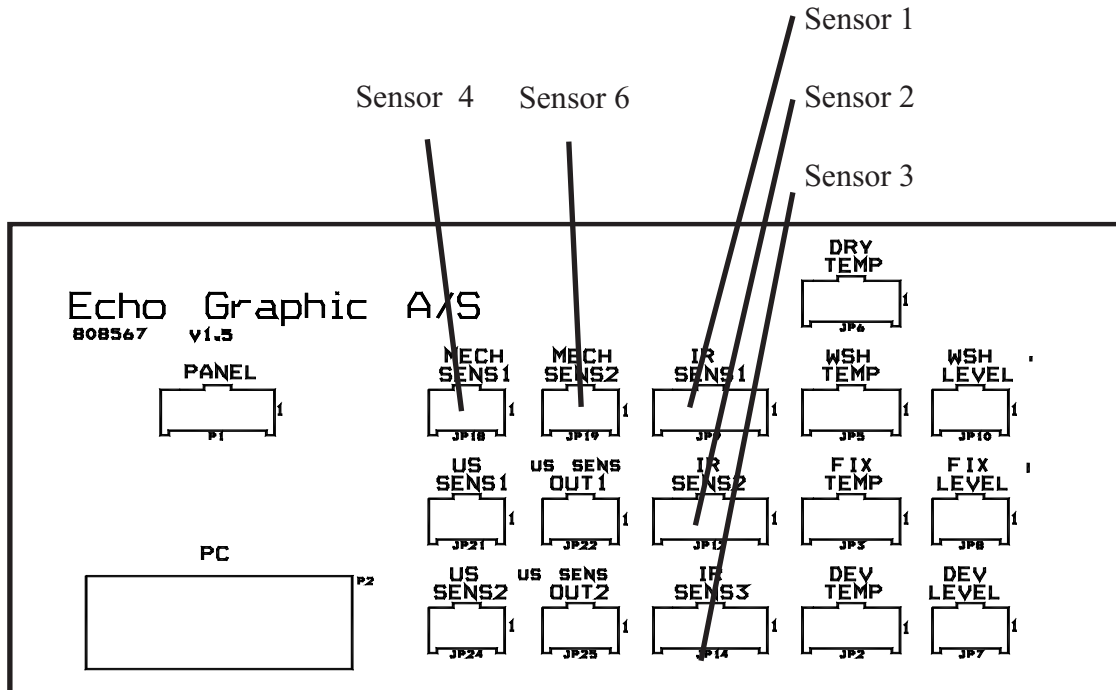

Fig. 5 Mounting of sensors
4. Mount the sensors on the main PCB. See fig. 5 on the next page.